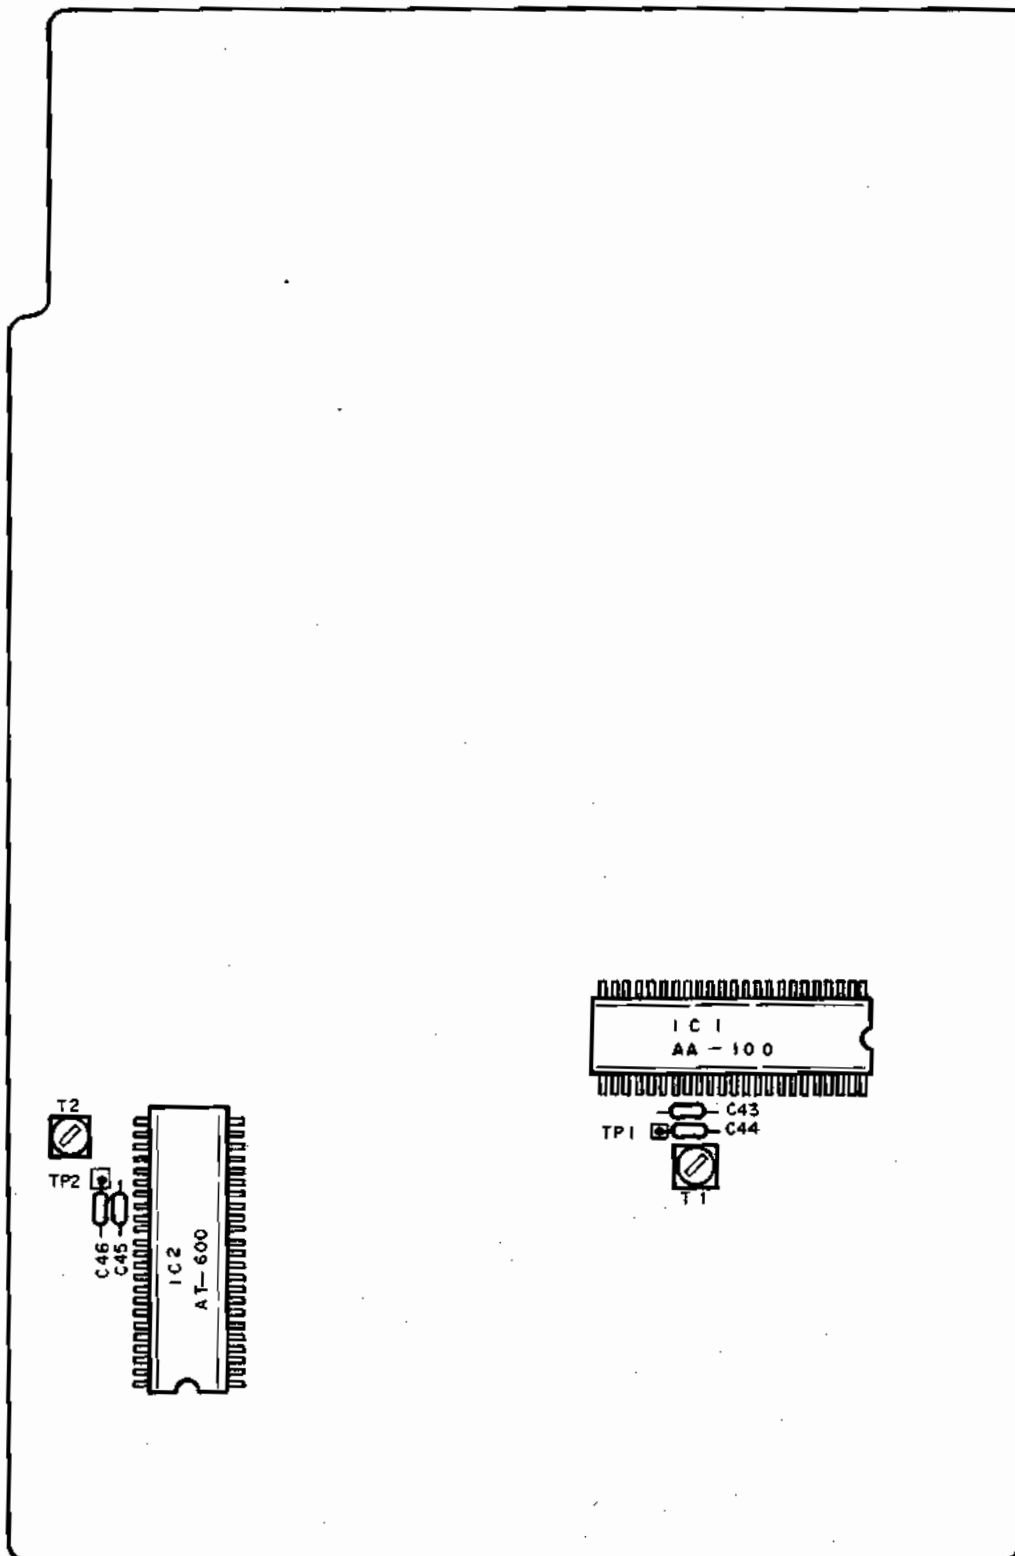

Fig. 3-10 AA-R32/L, AA-R42 Control PCB
1. CLOCK FREQUENCY ADJUSTMENT (Refer to Fig. 3-10)